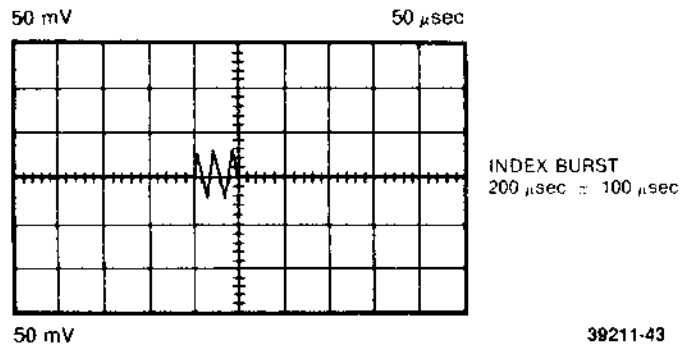

FIGURE 6-6. INDEX BURST
- g. Observe timing between start of sweep and first data pulse. This should be $200 \pm 100 \mu\text{sec}$. If timing is not within tolerance, continue on with adjustment. See figure 6-6.